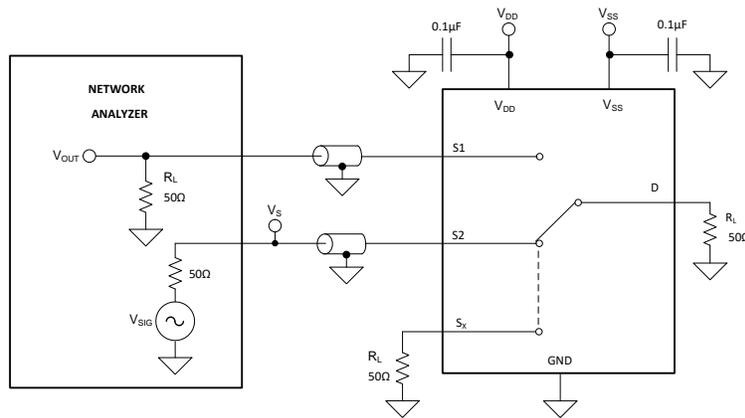

图 26. Crosstalk Measurement Setup
Crosstalk is defined as the ratio of the signal at the drain pin (D) of a different channel, when a signal is applied at the source pin (S_x) of an on-channel. 图 26 shows the setup used to measure, and the equation used to compute crosstalk.